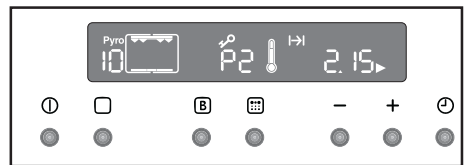

Fig. 23
5. After some time, the door lock will be activated and the related symbol  will be displayed (Fig. 23).